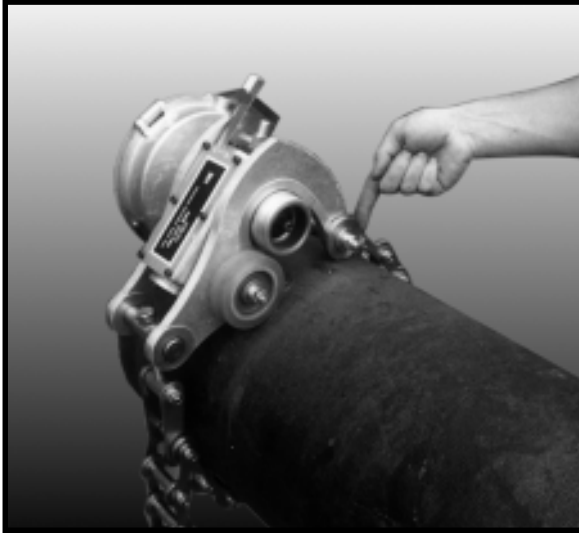

FIGURE 4
7. After chain has been secured, be sure rear steel wheels are contacting pipe (figure 4).